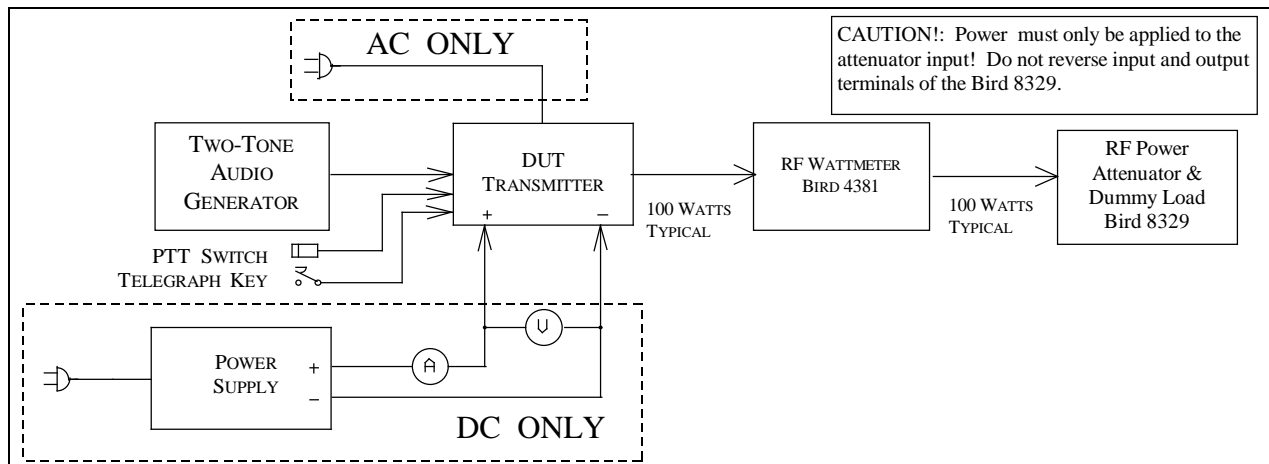

Fig. 6-1 — Chamber Test Hook-up
6.1.2 Test hook-up (See Fig. 6-1)